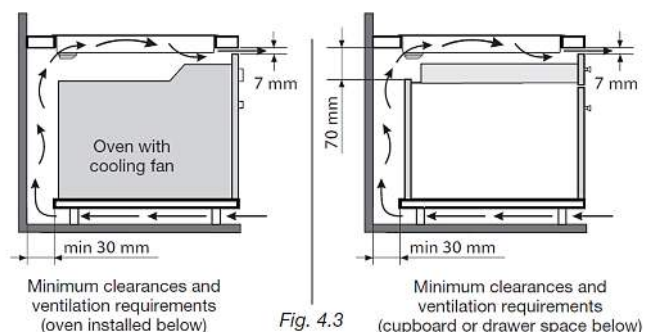

Fig. 4.3
**IMPORTANT WARNING! This cooktop requires adequate supply of fresh, cool air to fully function. The base of the cooktop must have direct unrestricted ventilation to the room where the cooktop is installed. Follow the requirements of figure 4.3**